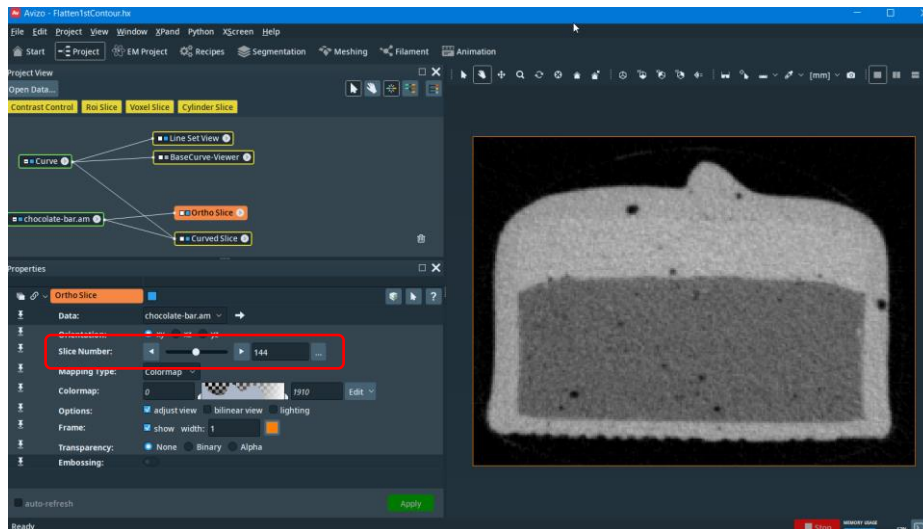

Figure 10
12. Set the next contour plane by moving, in the Orthoslice module, the “Slice Number” port. This plane, of course, has a significantly different boundary contour. Let’s suppose this is the case for the slice number 144. See Figure 10